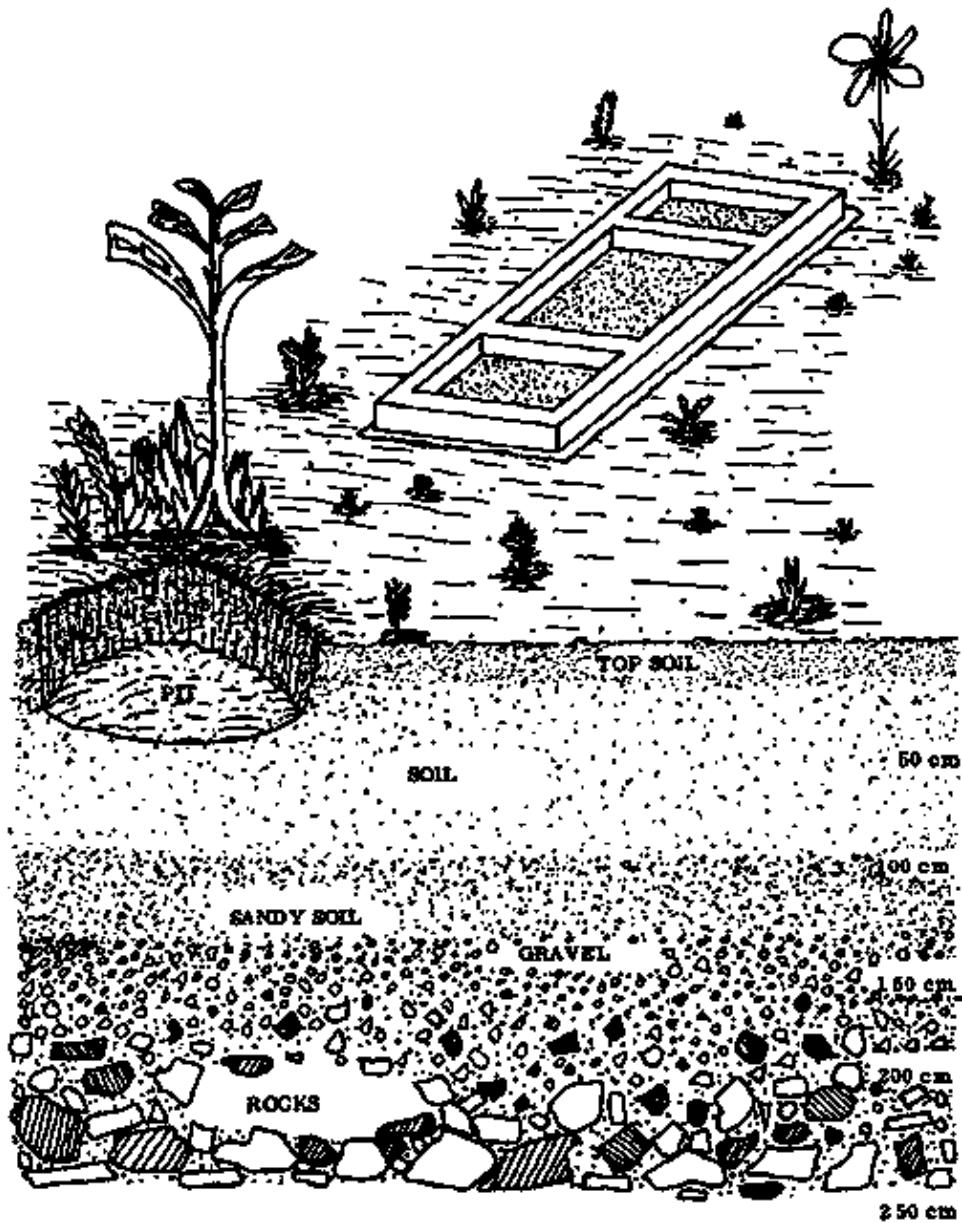

Fig. 1
- a – Remove the top layer of soil (Fig. 1).